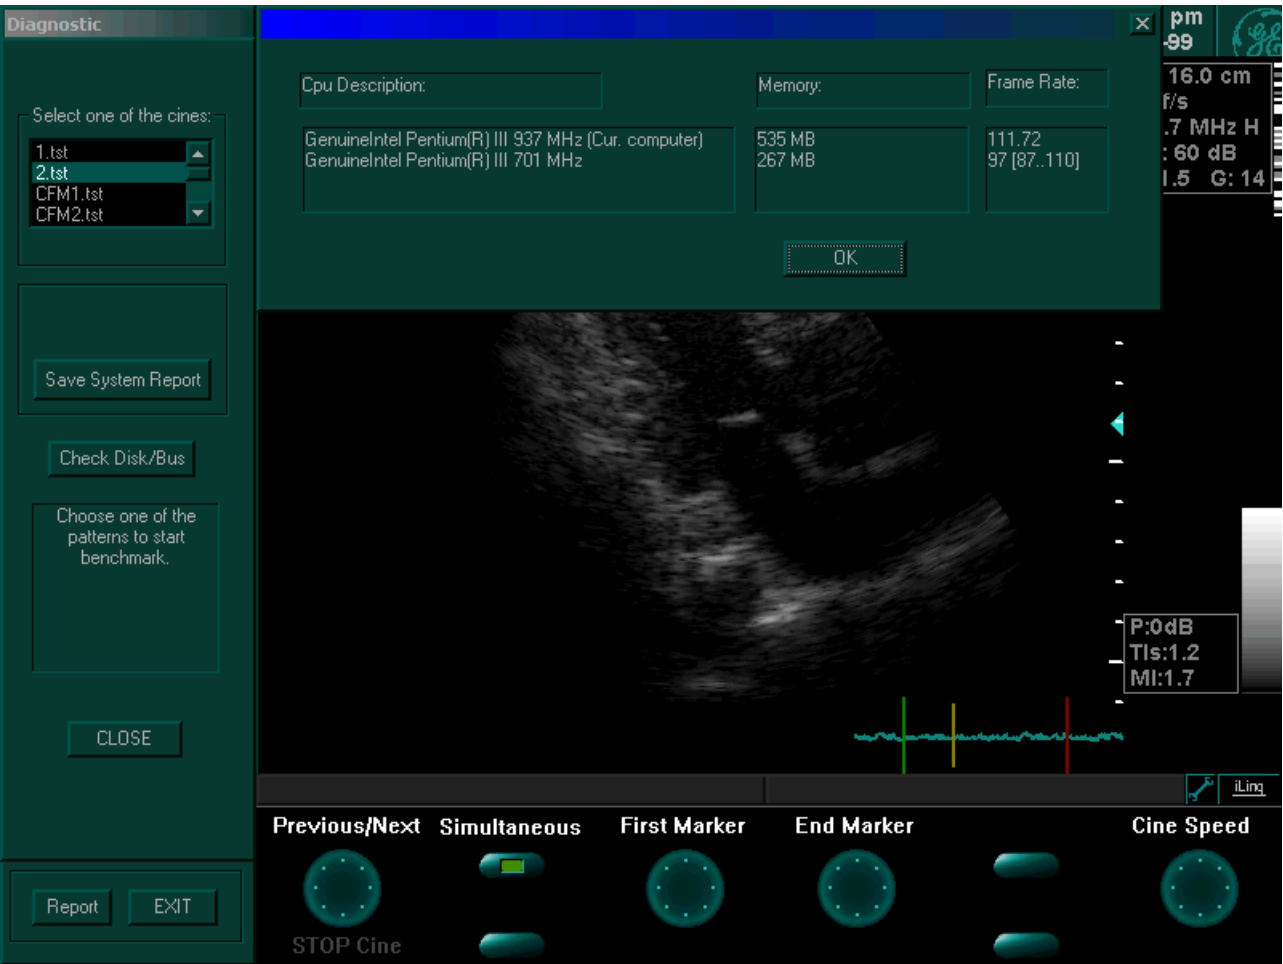

Figure 7-55 Benchmark Testing Results
- 3) Trackball to the required option from the **Select one of the cines** drop-down list and press **Select**. The following results are displayed, as shown in Figure 7-55 "Benchmark Testing Results" on page 7-84.